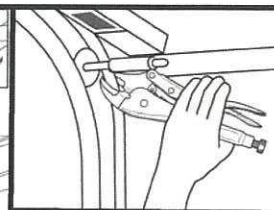

Figure 2
When it is determined that the track spacing is correct, raise the door to the fully opened position. Clamp the door open using (2) Lock Grip pliers as shown (Fig 2).